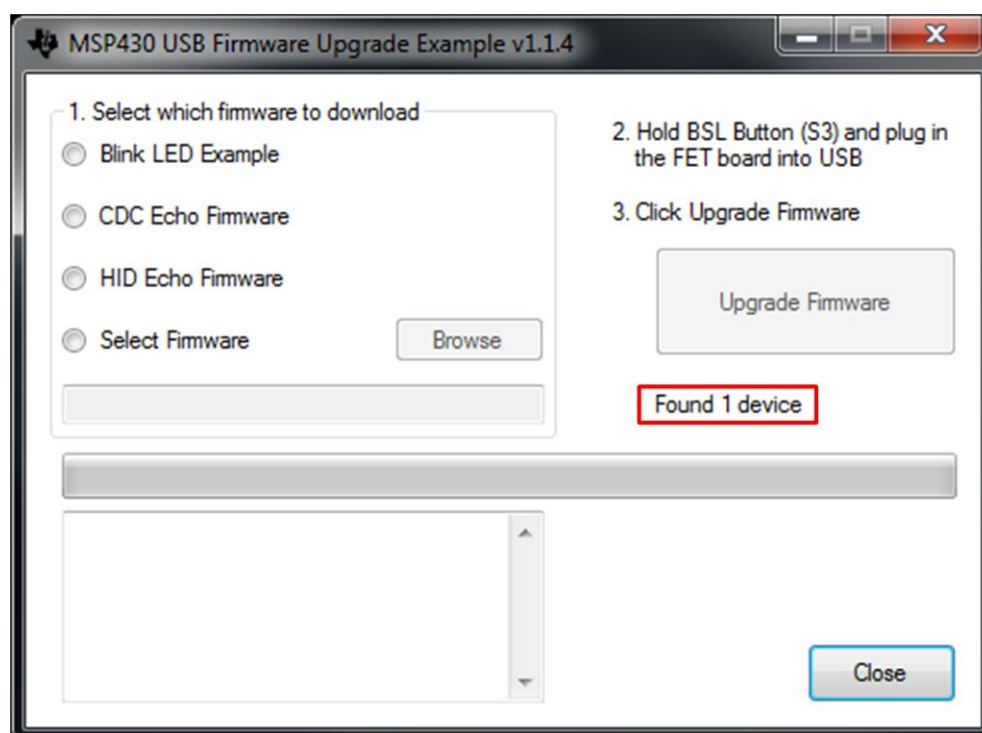

Figure 16. USB Firmware Upgrade Window
4. Go to the "SETUP" tab and select "Update Firmware". Select OK to the message "Update MSP430 Firmware?" Accept the license and the message "Found 1 device" should appear as in Figure 16.